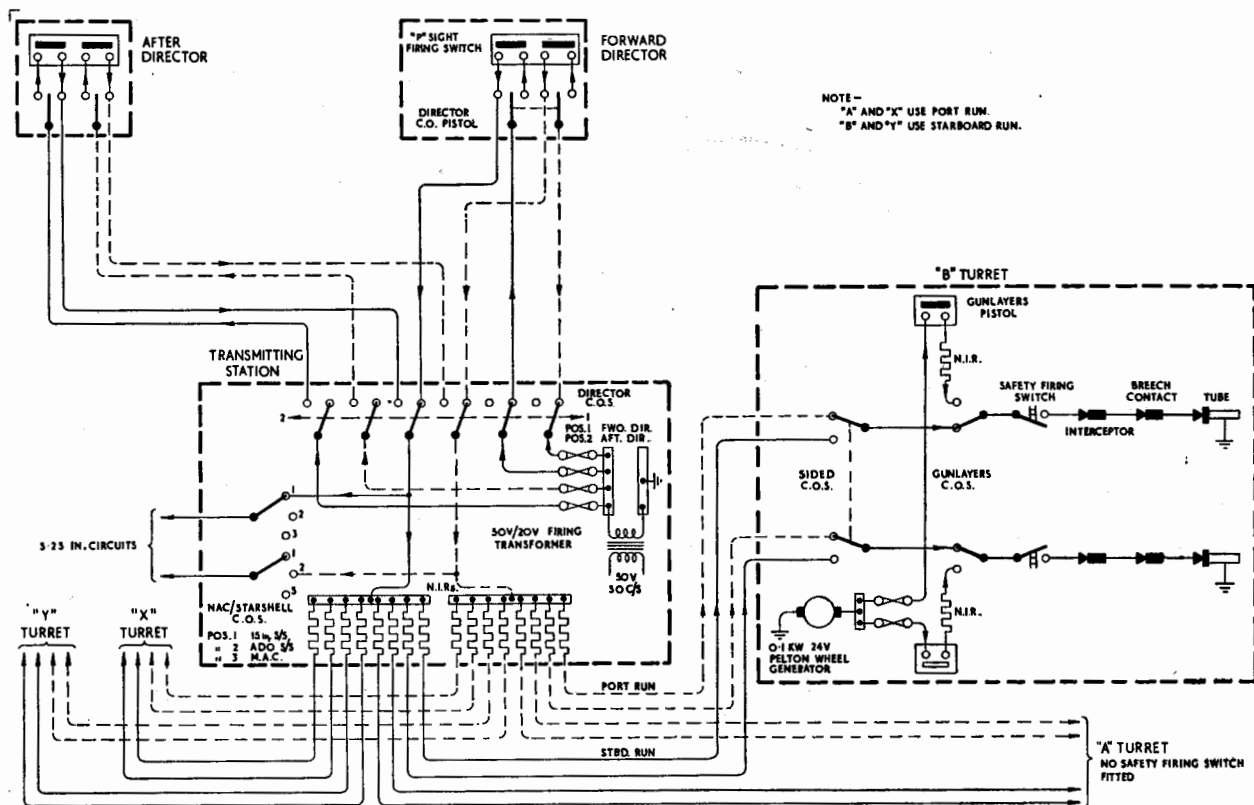

Fig. 1. 15-in. firing circuits—H.M.S. VANGUARD
5. Fig. 1 shows the layout of the firing circuit arrangement in H.M.S. *Vanguard* for both director and local firing. The testing procedure for the system is similar to that explained for the 'P' sight firing switch in paras. 8-31 of the section on 6-IN. TRIPLE MARK 23 MOUNTING. Testing for the director 'main' and 'auxiliary' circuits should be carried out from the N.I.R. boxes in the 15-in. T.S. and the local circuits from the local N.I.R., which must include the Pelton wheel generator.